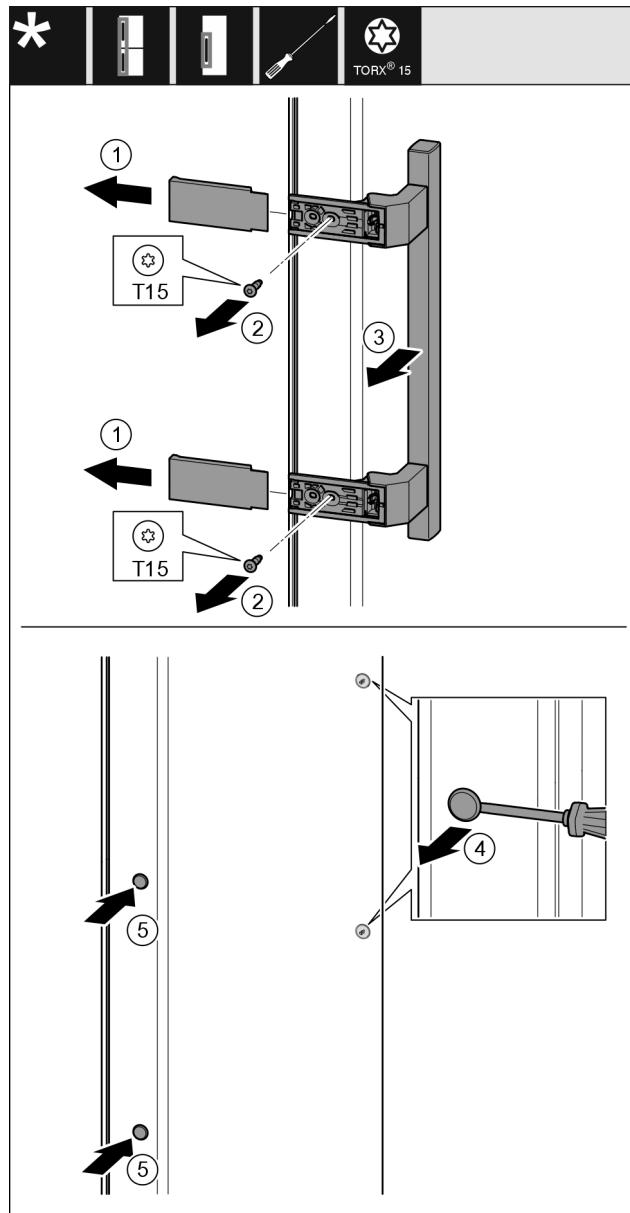

Fig. 23
- Remove the cover Fig. 23 (1).
- Unscrew screws Fig. 23 (2) with screwdriver.
- Remove the handle Fig. 23 (3).
- Use a slotted screwdriver to lift the side plug Fig. 23 (4) carefully and pull it out.
- Re-insert the plug Fig. 23 (5) on the other side.